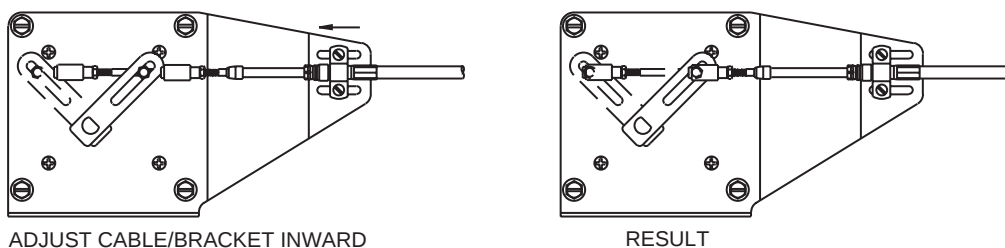

Figure 28. Adjustment of Cable Clamp - Short
- C: When the travel of the Servo Actuator lever and push-pull cable matches closely, but the cable will not reach to attach to the Servo Actuator Lever at both ends of travel, move the cable clamp inwards towards the actuator lever. See Figure 28.